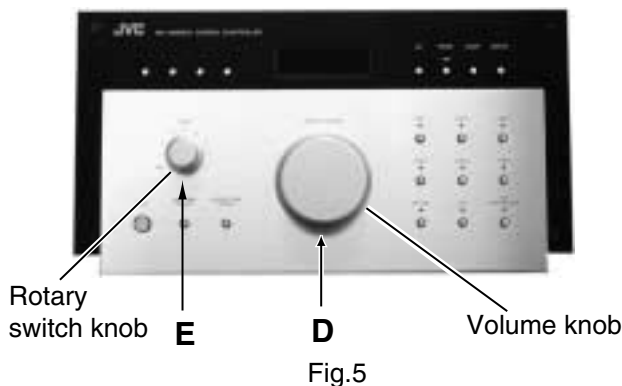

Fig.5
■ **Removing the main board assembly (See Fig.5 to 7)**